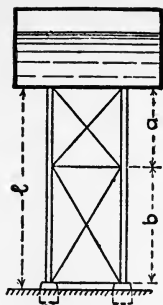

Fig. 7.
7. A water tank is carried upon four supports braced together in the manner illustrated in fig. 7. Assuming that the pillars are not encastered at their ends shew that instability will occur if P the thrust in a pillar reaches the value given by the equation